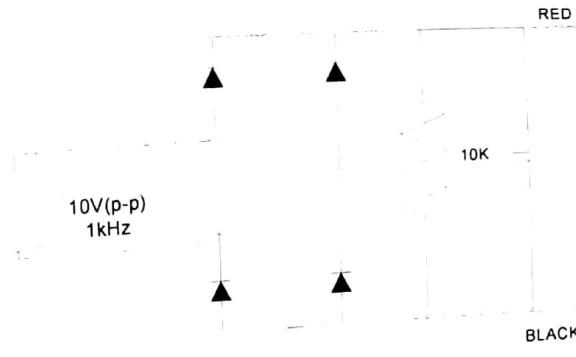

Fig. 2
1. Connect the circuit in breadboard as shown in Fig: 2 without capacitor.